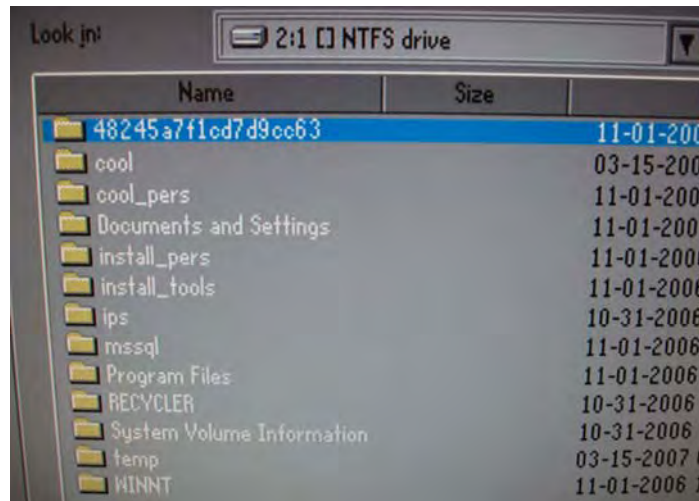

Figure 1-159. Ghost Disk Verification V
6. The disk using the old Windows 2000 and IMS has the folder “cool”, “cool_pers” and “WINNT” (Figure 1-159).